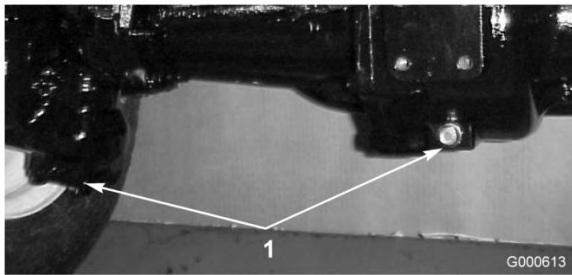

Figure 48
2. Clean the area around the 3 drain plugs, 1 on each end and 1 in the center (Figure 48).